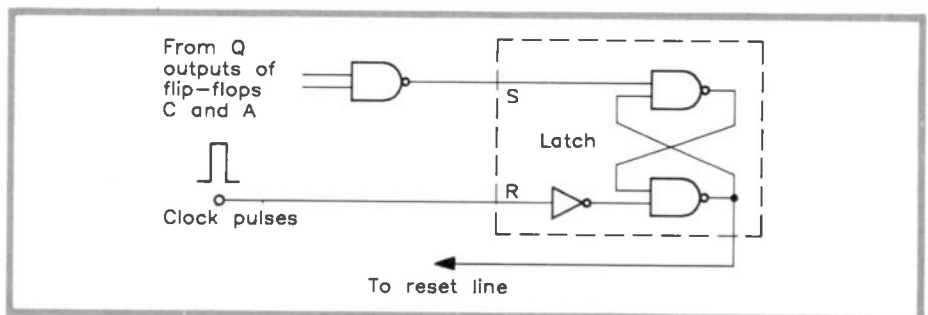

Figure 3. Modification to counter circuits of the Figure 2 type to avoid 'speed' problems.
Figure 3 shows a modification that can be made to counter circuits of this type to overcome this speed problem. A delay latch is now wired between the output of the NAND gate and the reset line. This latch has two inputs, marked S and R. The S input is driven from the output of the NAND gate, while the R input is connected to the clock line via an inverter. The output of the latch drives the counter reset line. The latch works as follows.
4. Connect the output of the NAND gate to the S input of a latch of the type shown in Figure 3. Use the latch output to drive the reset line.